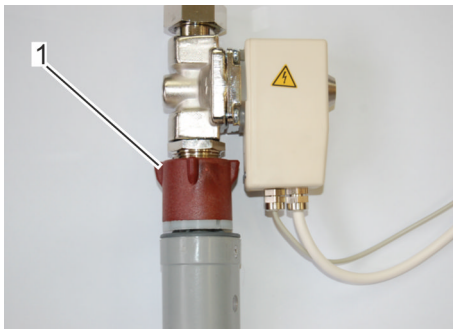

Fig. 81: Removing the safety pressure hose from the water monitor
4. ➤ Rotate the twist-lock located at the water monitor connection (Fig. 81/1) counterclockwise and remove.